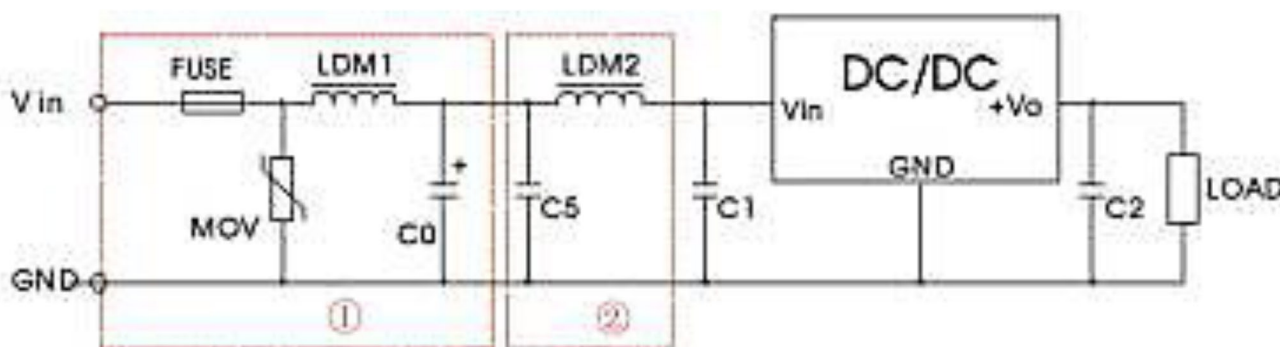

Figure 2: EMC Typical Recommended Circuits
Radiation disturbance	CISPR32/EN55032 CLASS B (The recommended circuit is shown in Figure 2)
2. EMC requirements: For situations with high EMC requirements, a typical EMC recommended circuit is shown in Figure 2.